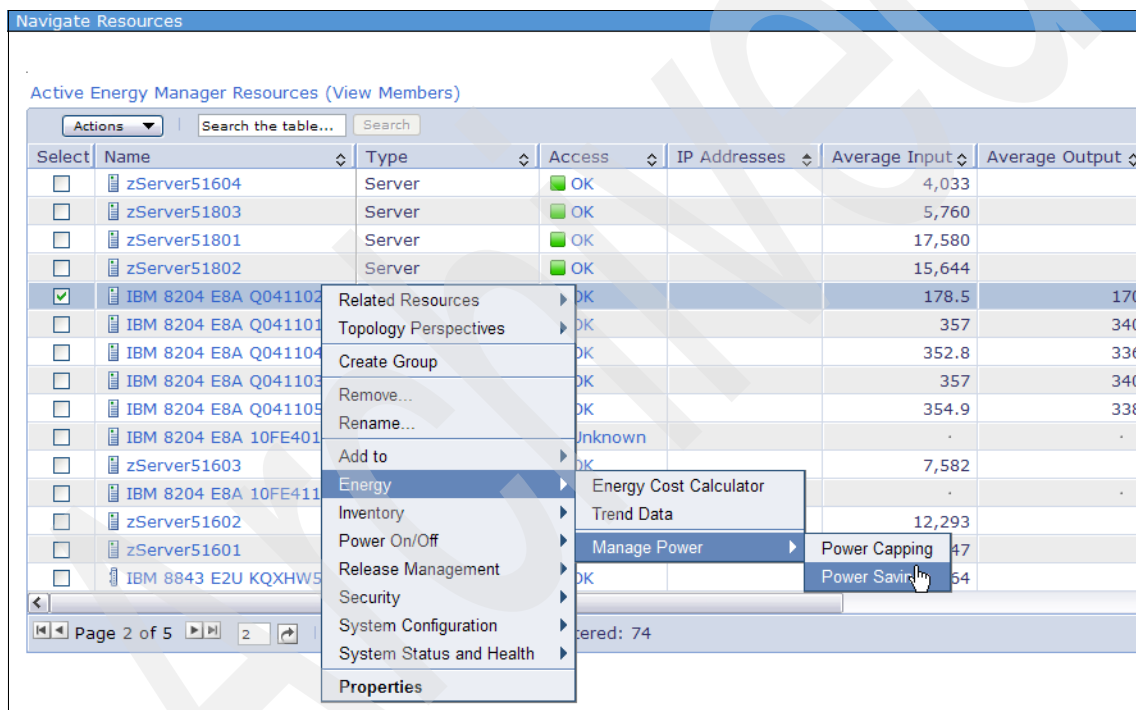

Figure 7-1 Setting static power savings - 1
2. Right-click a resource, and select **Energy** → **Manage Power** → **Power Savings** (Figure 7-1).